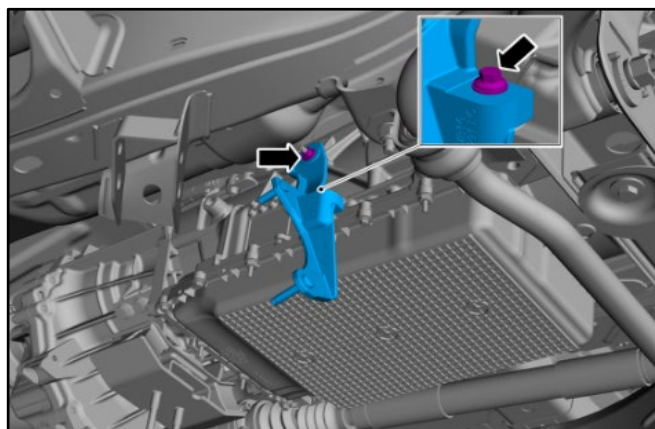

FIGURE 5
5. Remove the DPF rear mounting bracket bolt and nut. Refer figure 5